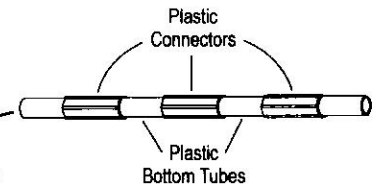

Figure 2. Slide In Pocket
1. Remove ZIP-ROLL Screen from the carton and unfold on the floor with the head strip on top. Assemble bottom plastic tubes with connectors and slide into the bottom pocket of the screen. Refer to Figure 2.